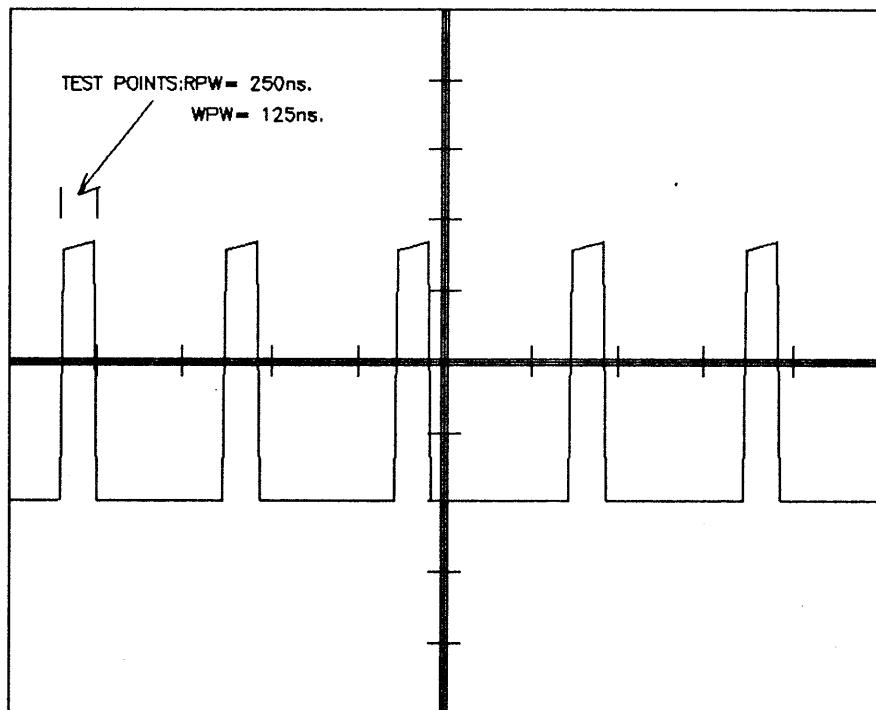

Figure 7-2. Read/Write Pulse Width.
3. Observe the waveform pulse width (see Figure 7-2). The pulse width should be $250\text{ ns} \pm 10\%$. If out of tolerance, adjust R31.